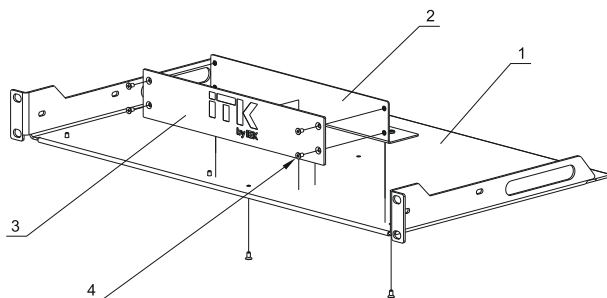

Рисунок 2 – Сборка изделия / Figure 2 – Product assembly / 2 сурет – Бұйымды құрастыру
To assemble the product according to figure 2 it is necessary to screw the angle-type section (2) to the subrack (1), using two M3 screws (4), and mount the blanking plate (3) on the angle-type section, using four M3 screws (4); tighten with a tightening torque of 0.5 N·m.